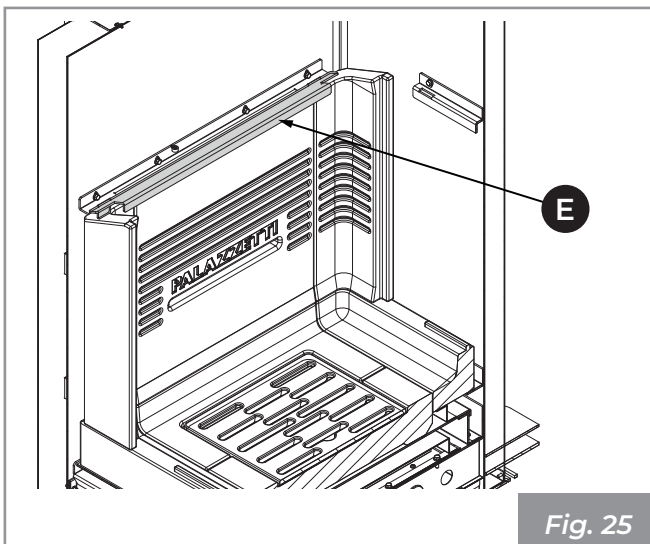

Fig. 25
- 9) Apply the upper locking bracket (E) that aligns the bottom wall to the angular plates (Fig. 25).